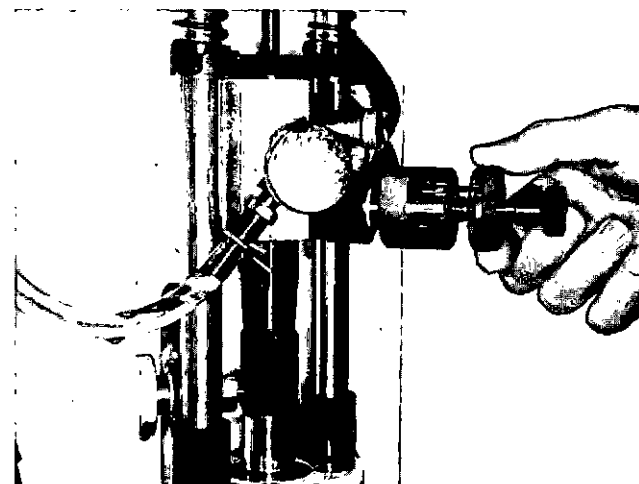

Fig. 4-65, (F60217). Burnish operation
16. Slowly push the small knob in until you feel the needle enter the orifice plug inside diameter. Then turn the knob counterclockwise to lock the needle shaft to the larger knob with the indicator. Turn the indicator knob in until you feel the needle contact the plug. Index the indicator with a mark on the largest knob and advance one mark. Fig. 4-65.